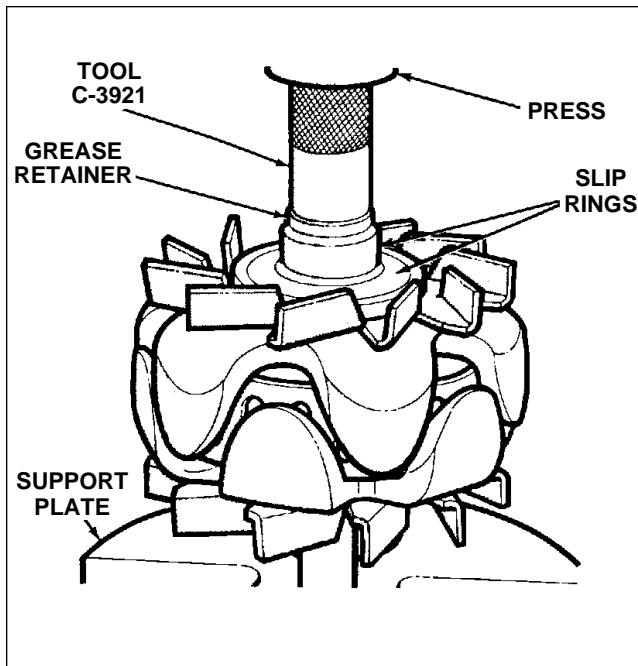

Figure 24-32. Installation of Chrysler Alternator Grease Retainer
- a. Position grease retainer on rotor shaft and press retainer on shaft with installer tool C-3921. Plastic retainer is properly positioned when inner bore of installer tool bottoms on rotor shaft. (Refer to Figure 24-32.)